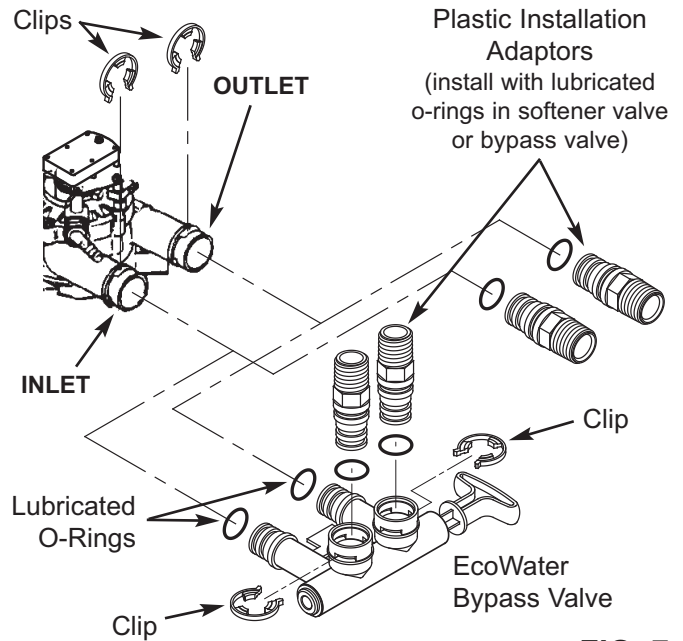

FIG. 7
- a. If installing a single bypass valve, push the bypass valve, with lubricated o-ring seals in place, into the valve inlet and outlet ports (See Figure 7).
- b. If installing a 3-valve bypass system, slide plastic installation adaptors, with lubricated o-ring seals in place, into the valve inlet and outlet ports, respectively (See Figure 7).